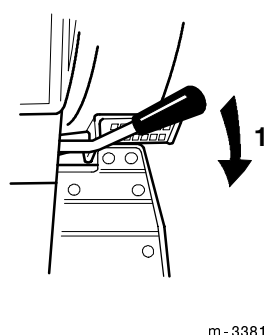

Figure 4
3. Move the PTO (power take off) to disengage (Fig. 4).
5. Move the choke lever to “ON” (Fig. 4).